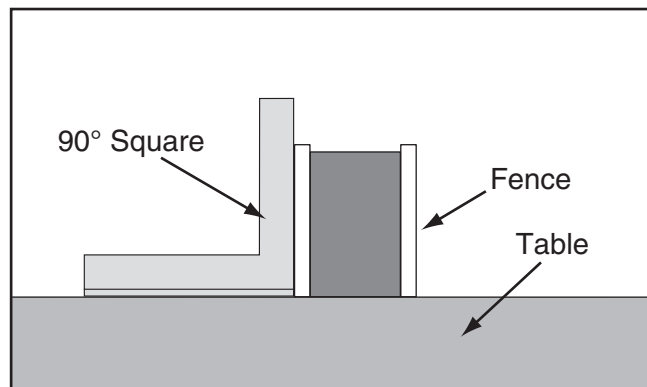

Figure 135. Checking if fence is square to table.
2. Place a square on the table against the face of the fence (**Figure 135**) to check if the fence is square to the table.